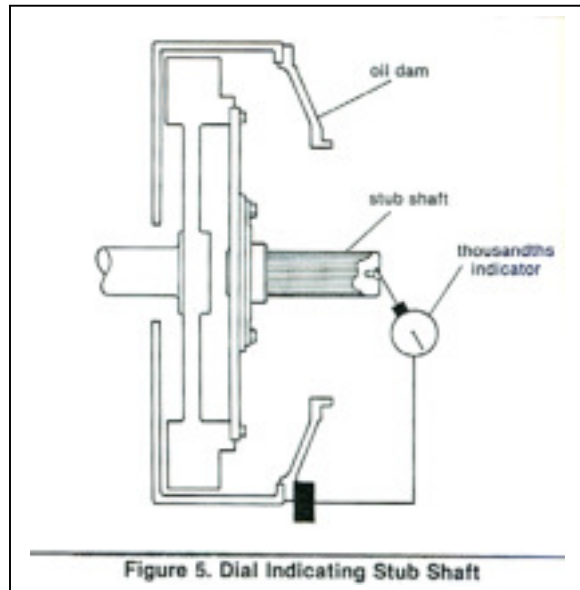

Figure 5. Dial Indicating Stub Shaft
7. Dial indicate stub shaft as shown in figure 5. Record reading. Total indicator reading must not exceed .007 inch.